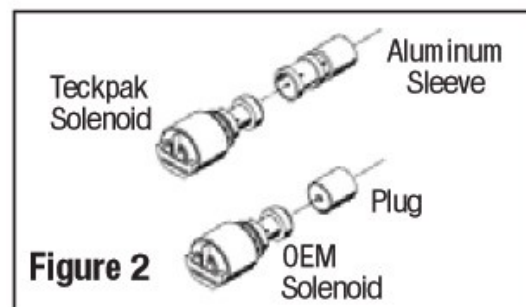

Figure 2
3. After the solenoid is removed, locate the aluminum sleeve/plug in the 3-4 solenoid bore position. Remove and discard. Fig.2
4. To Install: Install the aluminum sleeve furnished in the kit (Figure 2). The solenoid and retaining clip may now be installed. When installing the separator plate and valve body, be sure to tighten all bolts to factory specifications.